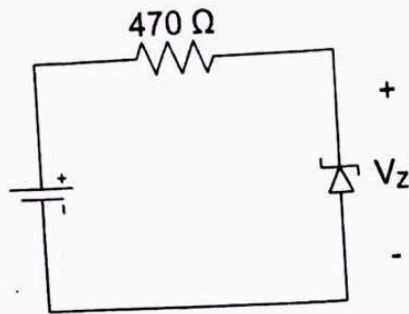

Figure 4.3 : Experimental Circuit 1.
1. Connect the circuit as shown in the figure 4.3